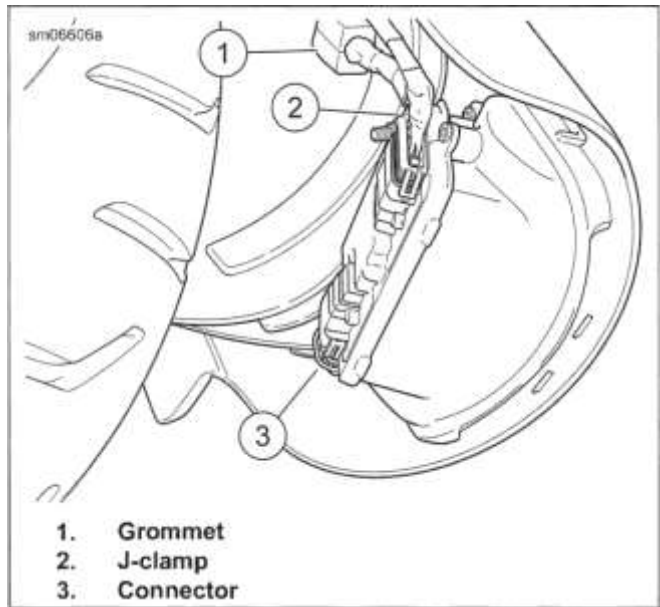

Figure 8-63. Rear Turn Signal Lights Connector (models without tail lamp)
- a. See Figure 8-63. Disconnect turn signal connector (3) from rear fascia lamp.
- b. Release harness from J-clamp (2) located above fascia lamp.
- c. Push grommet (1) rearward out of hole in fender.
- a. See Figure 8-63. Install connector (3).
- b. Secure harness in J-clamp (2) and under tab on end of fascia lamp.